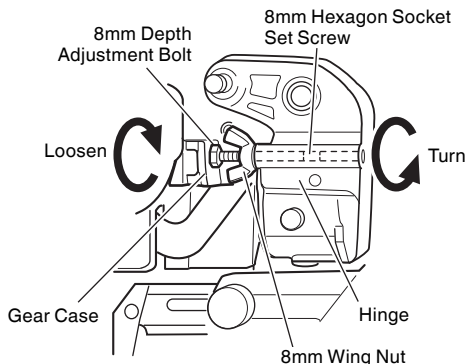

Fig. 11
To adjust the lower limit position of the saw blade, follow the procedures (1) to (4) indicated below. (Fig. 11)
To adjust the lower limit position of the saw blade, follow the procedures (1) to (3) shown in Fig. 11-a.
(1) Loosen the 8mm wing nut so that the 8mm depth adjustment bolt can be turned by hand.
(2) Lower the motor head, and thru the 8mm depth adjustment bolt by hand and make adjustments so that there can be a clearance of $3/32"$ to $1/8"$ (2mm to 3mm) between the lower limit position of the motor head and the top of the workpiece at the saw blade's lower limit position (where the head of the 8mm depth adjustment bolt contacts the gear case).
(3) After adjustment, turn the 8mm wing nut until it contacts the Hinge (see Fig. 11), and fully tighten it.